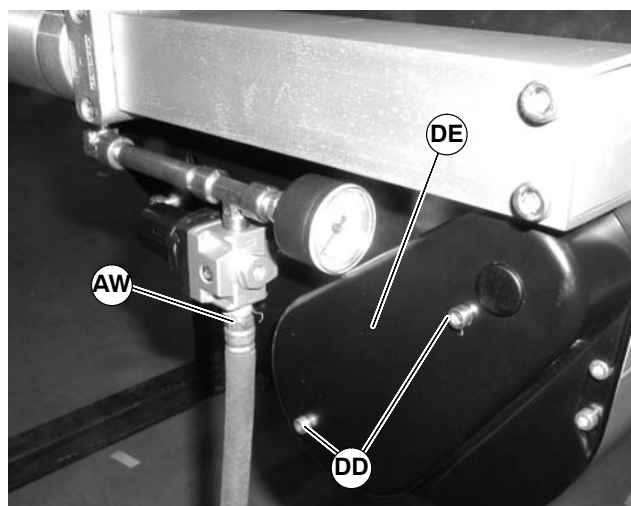

Figure 94
1. Remove air supply and remove hose (AW of Figure 94) from center drive.
2. Remove screws (DD of Figure 94) and guard (DE).